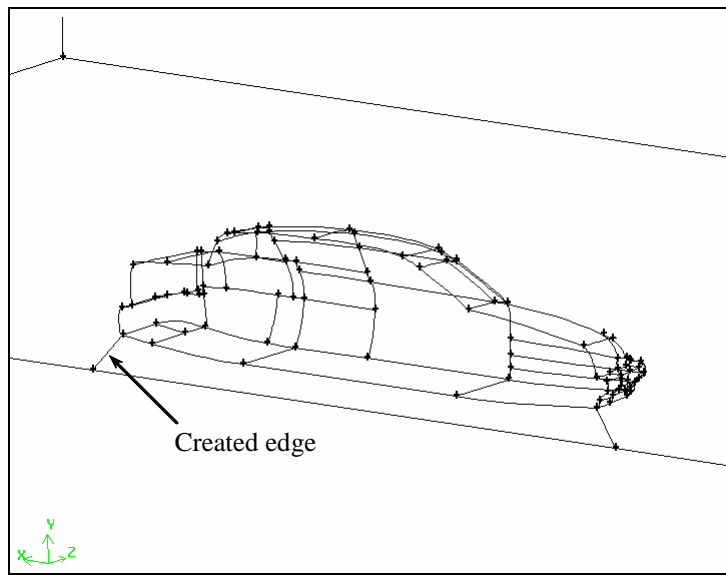

Figure 5-20: Edge from bottom of symmetry plane to rear of sedan
3. Create a straight edge from the second vertex created on the bottom edge of the symmetry plane to the rear bumper of the sedan, as shown in Figure 5-20.